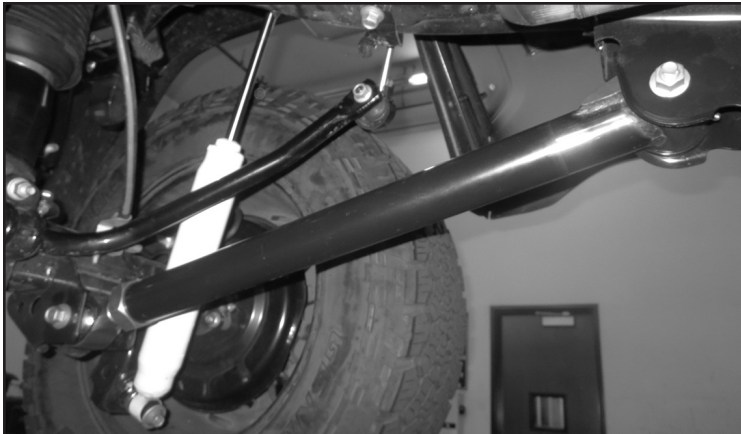

FIGURE 1 - STEP 4
4. Install the new rear lower link arms with the supplied misalignments using the factory hardware. (Zerk fitting will be pointing down). **NOTE: The bushing end will be installed on the frame side and the rod end will be installed on the axle side.** Use the supplied 9/16" washers on either side of the misalignments to fill the gap in the lower control arm axle mount if needed. Torque to 180 ft-lbs. Use thread locking compound and tighten the jam nut on the rod end. **SEE FIGURE 1.**